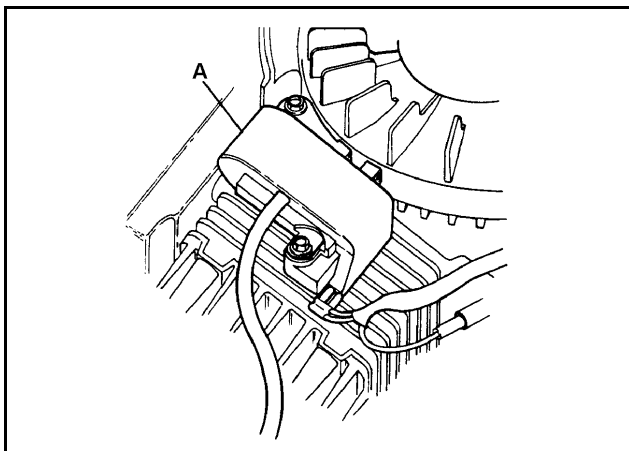

Figure 47
The Capacitive Discharge (CD) system (see Figure 47) is breakerless and contains electronic components that replace mechanical points and related accessories (such as a breaker cam, spark advance assembly, etc.).